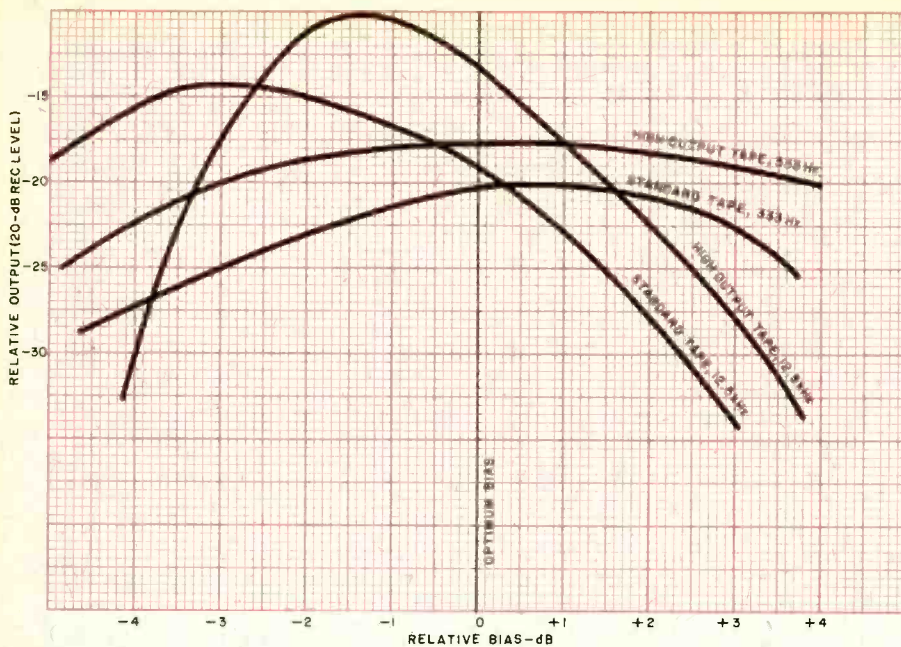

Fig. 9. Relative output sensitivities of standard and high-output tapes.
**Sensitivity** of a given tape is the decibel difference between the output and input levels when an input 20 dB below the reference level (0 dB) is recorded on a tape. If the recorder used for this test has been biased properly, equalized flat and input/output adjusted to be equal for a standard reference tape (a German DIN standard, known as Bezugsband 4.75/3.81 tape is often used as the standard), the data obtained is the sensitivity of the tape under test relative to the reference tape. For cassette tapes, 333- and 12,500-Hz tones are used for sensitivity tests. Typical results obtained for standard and high-output tapes are plotted against bias settings in Fig. 9. As can be seen at the "optimum bias" inter-